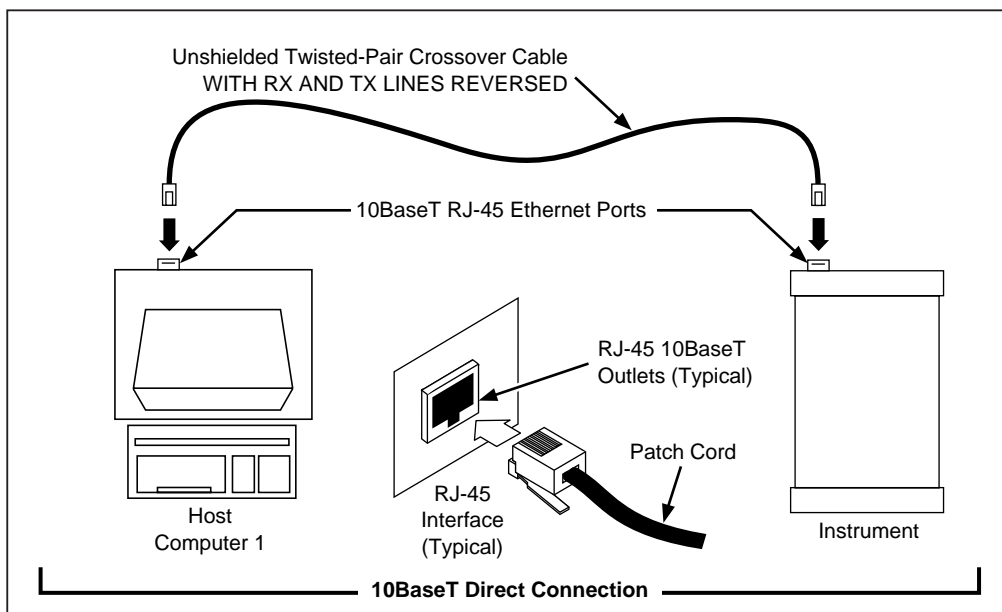

Figure 4-1. Performance Test Setup
1. **Connect the Instrument and Host Computer** Make the network connections to the instrument and the host computer using a suitable RJ45 UTP Crossover cable as shown in Figure 4-1.
On page 4-5, replace Figure 4-1 with the following: